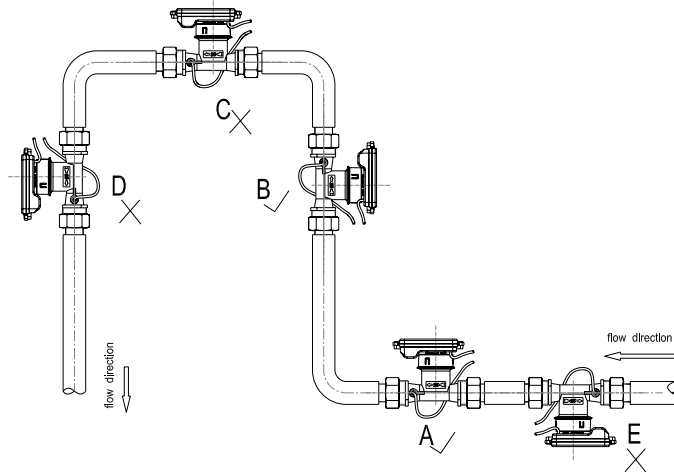
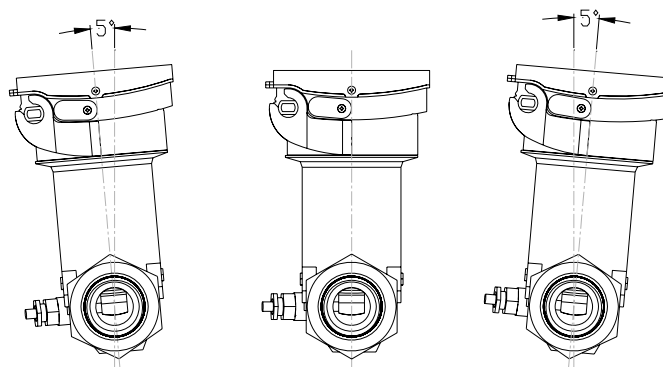

Figure 8. Installation position illustration
Figure 9. ACM installation illustration
5.2 ACM should be installed on the supply pipe. The orientation of the arrow signed on the outside meter body should be the same with the water orientation. Installed a straight pipe up to 10D(D is the nominal diameter of meter) at the upstream and a straight pipe up to 5D at the downstream of the meter. As in figure 8, A and B are right installation position while C, D, E are improper. The meter should be installed with a gradient no larger than 5 degree to left or to right, as showed in figure 9.